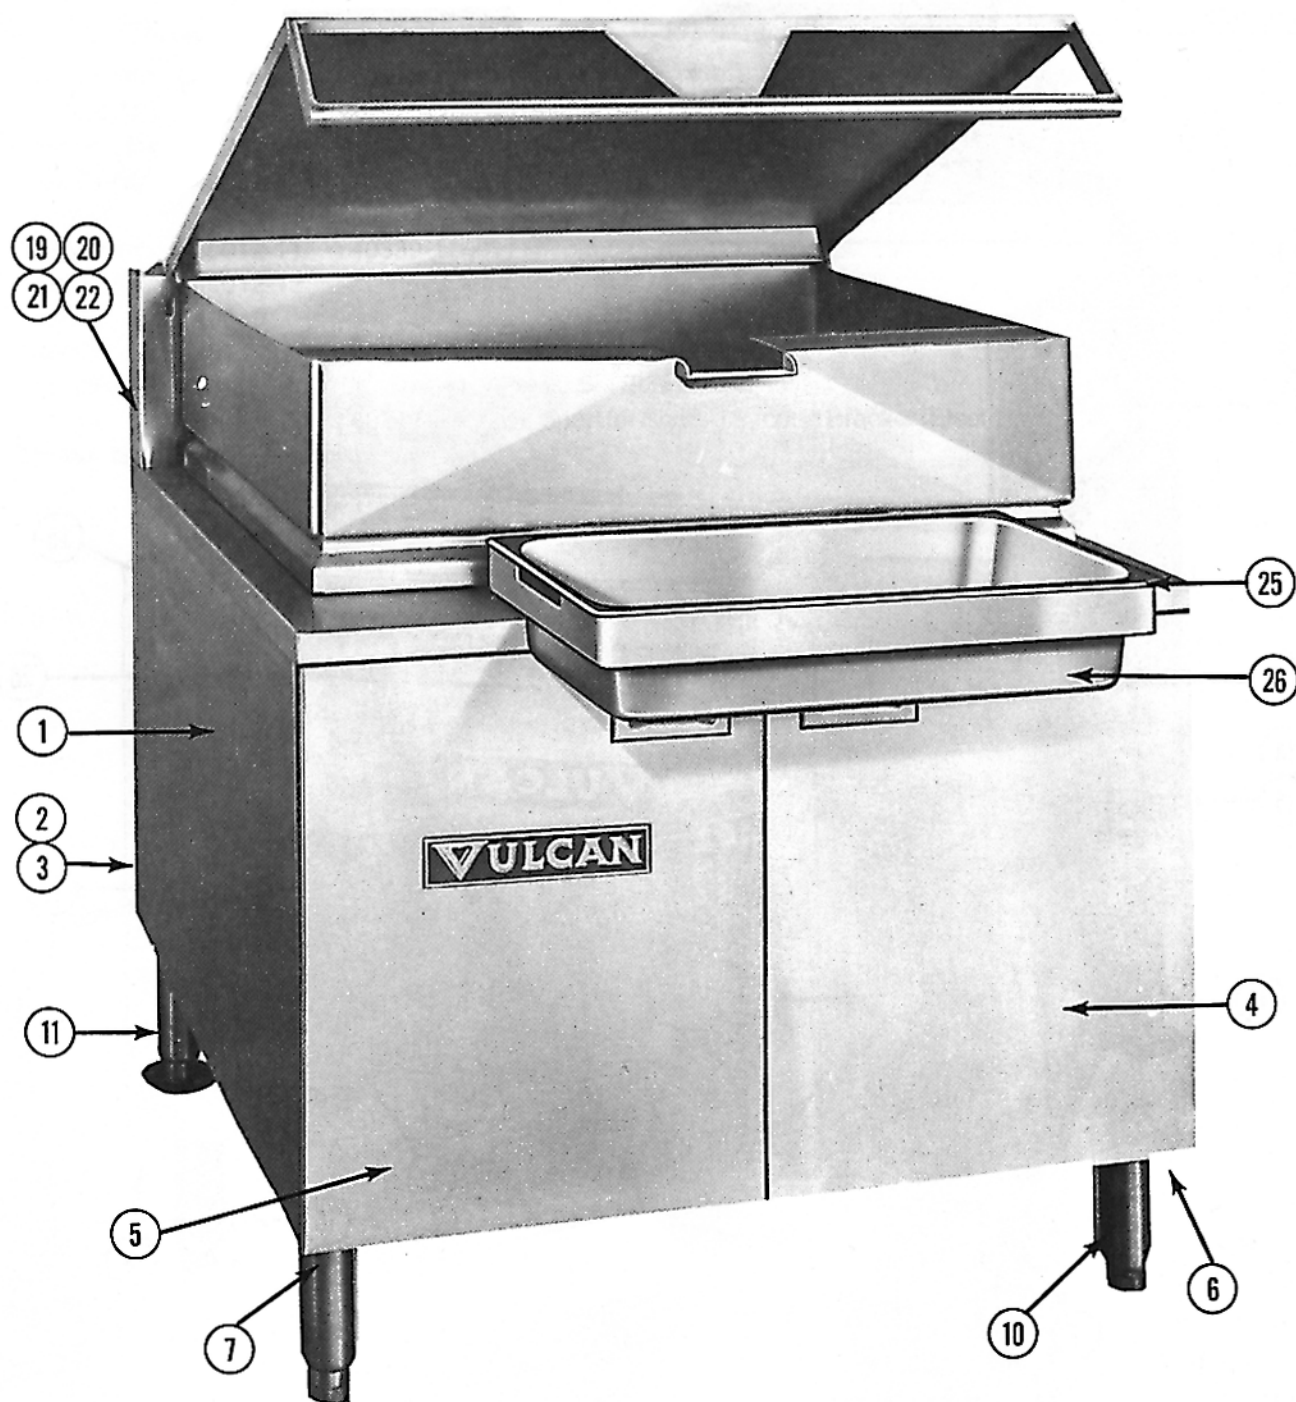

FIGURE 5A (CLOSED BASE)
1. Cabinet Parts (See Figure 5A and 5B)